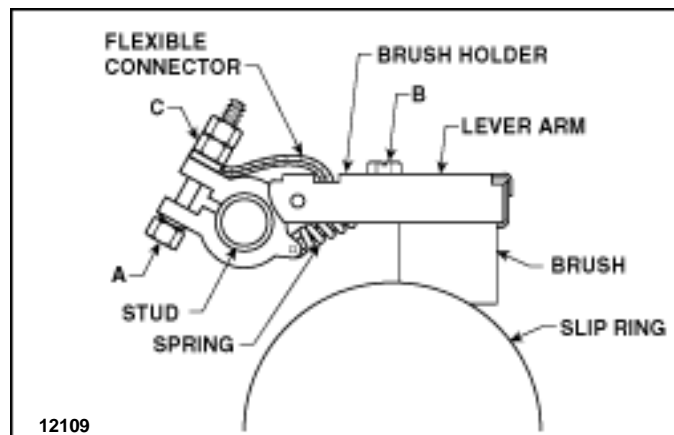

Figure 9.1 Brush Holder with Brushes.
(2) Brushes (Wound Rotor motors only). Figure 9-1 shows a typical brush holder with brush. (Details may be different for motors by other manufacturers.)
To adjust brush pressure on slip ring, loosen or tighten nut A (see Figure 9-1) until concave surface of brush makes good contact with slip ring.
To replace brushes, use following steps (see Figure 9-1):